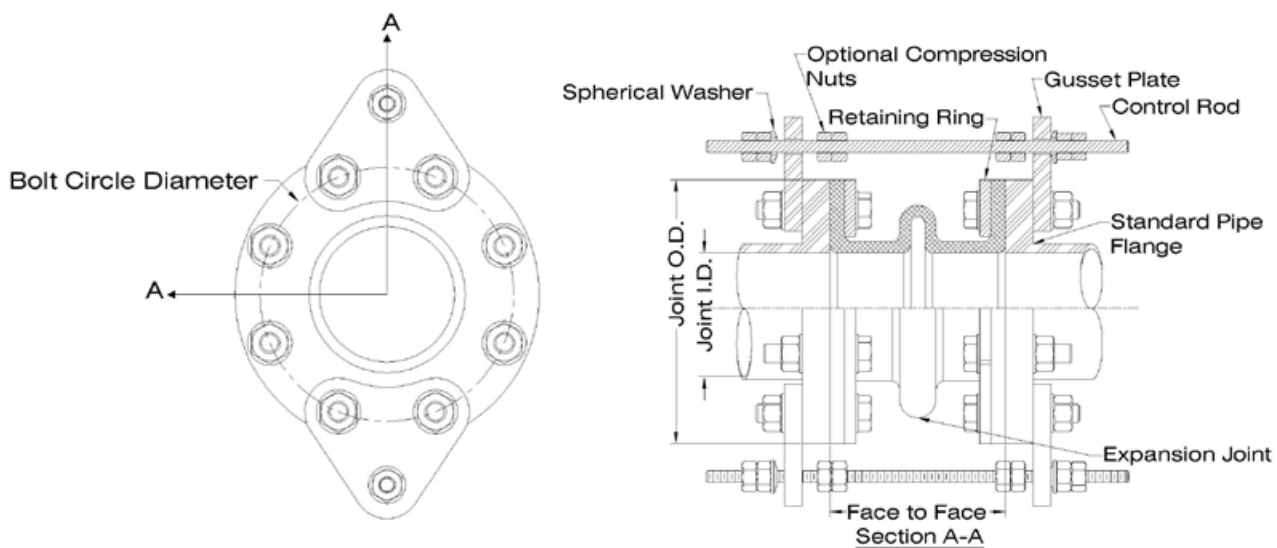

Figure 5
Figure 5 shows the proper assembly of an expansion joint with standard design control units. The control unit system consists of a minimum of two tie rods with triangular plates and hex nuts with spherical washers. The exact number and diameter of the tie rods and the thickness of the triangular plates is selected on the basis of the actual design/test pressure and other load requirements the system may be subjected to. Always specify all load requirements when ordering control unit assemblies.
The maximum elongation setting "E" shown in Figure 5 is based on each expansion joint's design and will vary for different manufacturers. Refer to Table I for typical elongation requirements for single or multiple arch expansion joints.
Overcompression of expansion joints is controlled by installing additional nuts over the tie rods. The compression nuts are the same as the external nuts. The placement of the compression nuts should be such that the expansion joint cannot be compressed beyond its maximum allowable capabilities. This allowable movement is the setting "C" of Figure 5 and is based on design requirements stated by the expansion joint manufacturer. Table I lists typical compression movements for single or multiple arch expansion joints.
If, in another application, axial movement of the pipe flanges must be provided, then the hex nuts are adjusted to allow the expansion joint to compress and elongate as required. The inner hex nuts are set to control compression of the expansion joint. The outer hex nuts are set to control elongation of the expansion joint. Once the hex nuts are set, the nuts are locked together and then the control units function in the same manner as the control units of Figure 5.
Insert control rods with spherical washer and (2) hex nuts through the top hole of the first triangular plate. Place (4) internal compression nuts (if required) over control rod. Insert control rod through second triangular plate. See Figure 5. Place spherical washer and (2) hex nuts on end of control unit rod.